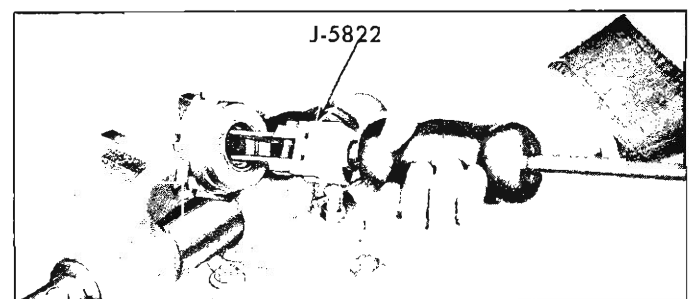

Fig. 48—Removing Wormshaft Bearing Cup
1. Remove wormshaft bearing cups using Tool J-5822 with Tool J-2654 (fig. 48).